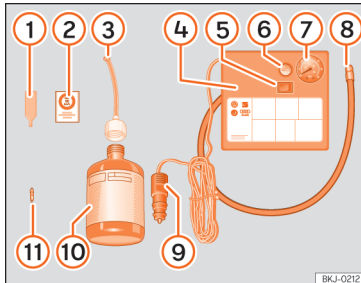

Fig. 67 Standard display: contents of the anti-puncture kit.
- Unscrew the tyre valve cap and insert. Use the » » Fig. 67 ① tool to remove the insert. Place it on a clean surface.
- Shake the tyre sealant bottle vigorously » » Fig. 67 ⑩.
- Screw the inflator tube » » Fig. 67 ③ into the sealant bottle. The bottle's seal will break automatically.
- Remove the lid from the filling tube » » Fig. 67 ③ and screw the open end of the tube into the tyre valve.
- Place the insert back into the tyre valve using the tool » » Fig. 67 ①.
- Screw the compressor tyre inflator tube » » Fig. 67 ⑧ into the tyre valve.
- Check that the air bleed screw is closed » » Fig. 67 ⑥.
- Insert the connector » » Fig. 67 ⑨ into the vehicle's 12-volt socket » » page 154.
- Turn the air compressor on with the ON/OFF switch » » Fig. 67 ⑤.
- Attach the sticker »» Fig. 67 ② to the instrument cluster, within the driver's visual field.